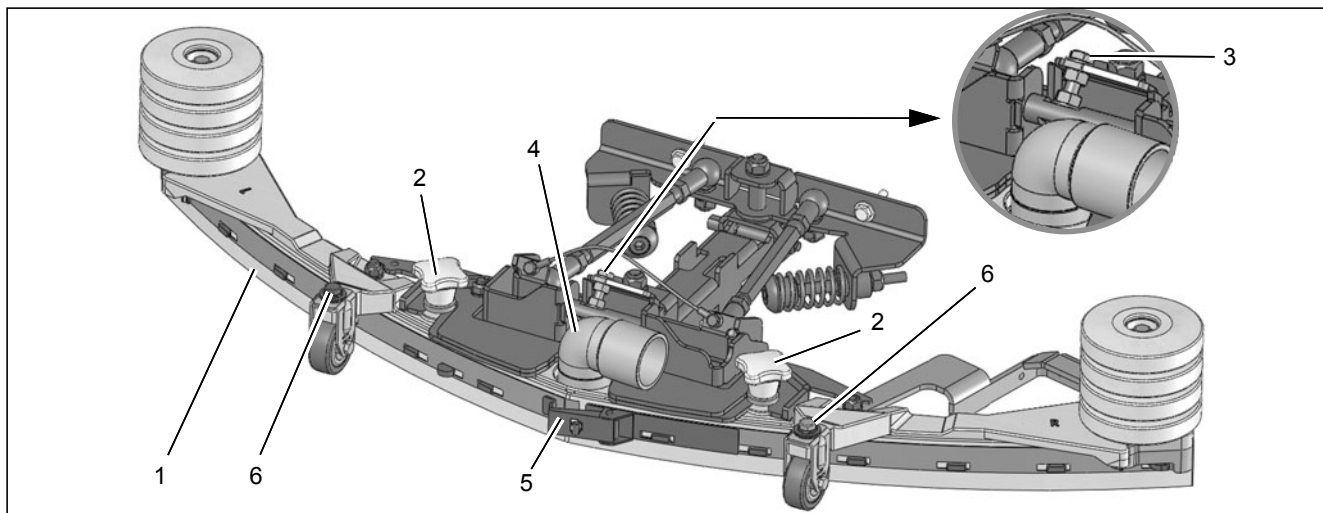

Fig.28
Check the squeegee (Fig. 28/1) daily and clean as necessary.
To clean the squeegee, raise it, disconnect the suction hose (Fig. 28/4), loosen the two star-shaped knobs (Fig. 28/2) and remove the squeegee.
Check the inner and outer sealing strips on the squeegee (Fig. 28/1) weekly for signs of wear. The sealing strips can be turned four times (90°) and reused.
3. Loosen the fastening device (Fig. 28/5) and remove the outer sealing strip. Turn the sealing strip or replace it, as necessary. Change the inner sealing strip in the same way.
2. Loosen the conternut on the screw (Fig. 28/3) and use the conternut to adjust the squeegee so that the ends of the sealing strips just make contact with the floor.
The height adjustment is set to 3 mm at the factory. If, despite an optimum angle adjustment, streaks are produced, the distance between the rollers and floor must be adjusted by altering the number of washers (Fig. 28/6) on the holder.